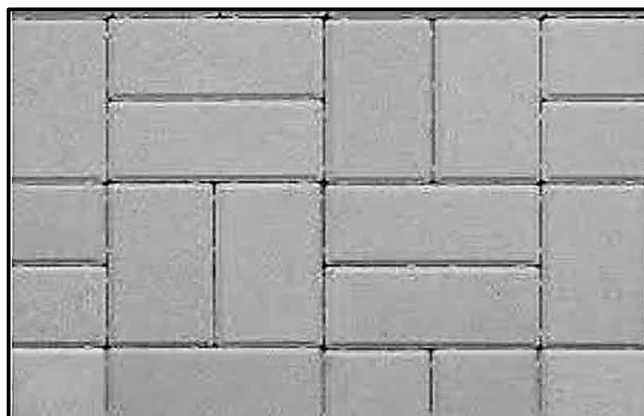

FIGURE 5.3
5.3 FIGURE 5.3 below shows bricks laid for a pavement.
5.3.1	Identify the paving pattern in FIGURE 5.3.